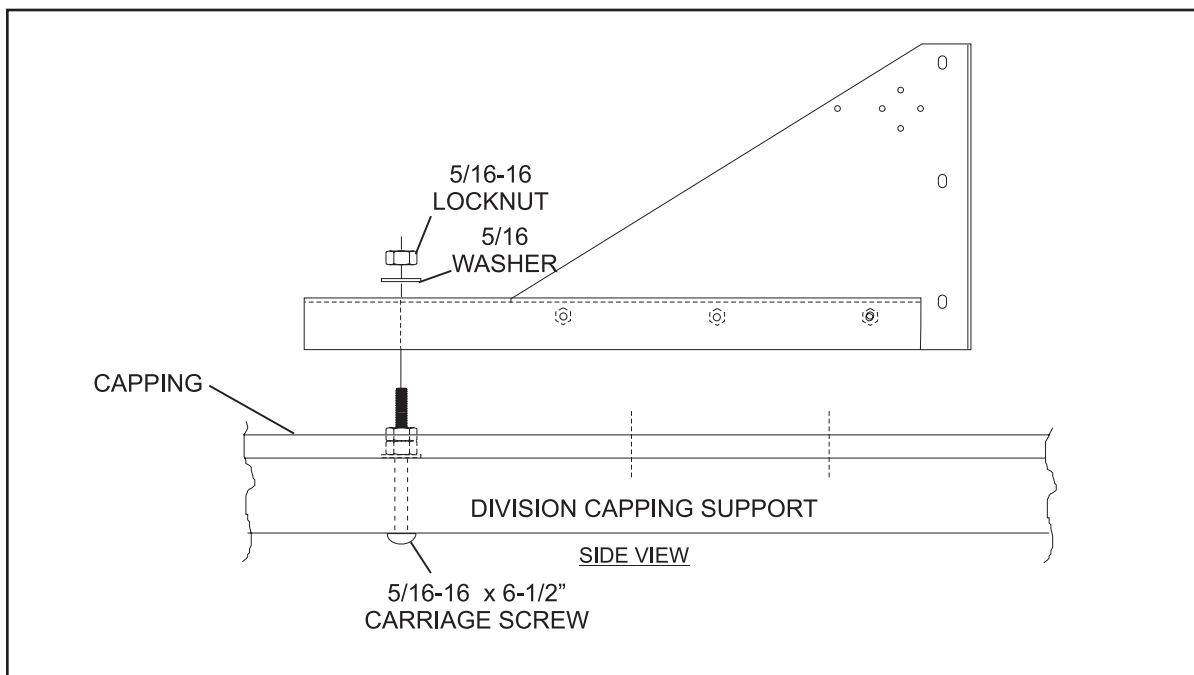

Figure 7
6. Secure the gusset assembly to the division capping using the 5/16-16 x 6-1/2" carriage screw. Refer to *Figure 7*.